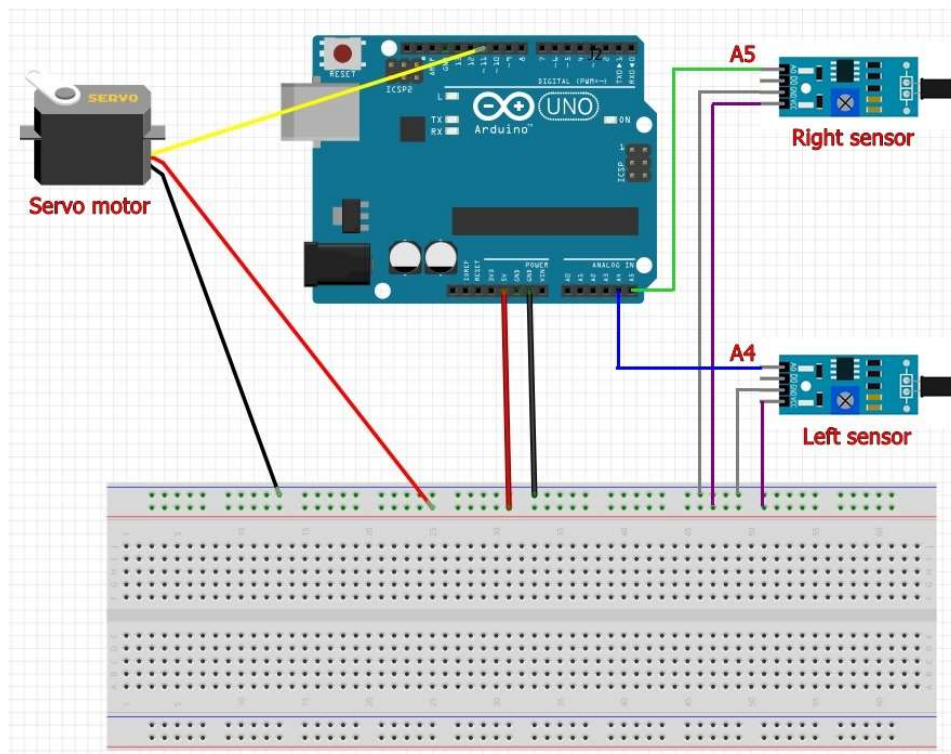

Fig. 1: Hardware connection diagram of the IR tracker
In this project, students are required to implement an infra-red (IR) tracker by using an Arduino microcontroller board. The IR tracker will detect the IR light source, and rotate the sensor module towards the direction of the source automatically (see the demo video). The hardware connection diagram of the IR tracker is shown in Fig. 1.